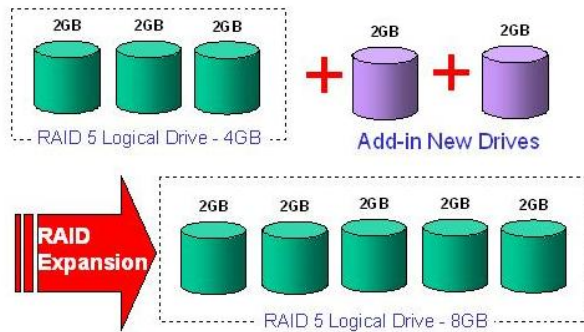

Figure 9-6: RAID Expansion Mode 1
Mode 1 Expansion is illustrated in *Figure 9-6* and involves adding more hard disk drives to a logical drive, which may require that the purchase of an enclosure with more drive bays. The data will be re-striped onto the original and newly added disks.
In *Figure 9-6* above, new drives are added to increase the capacity of a 4-Gigabyte (GB) RAID 5 logical drive. The two new drives increase the capacity to 8GB.